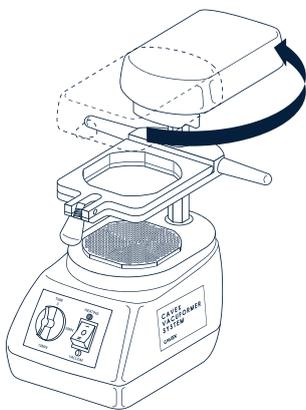

Fig. 1
1. Rotate the heating element to the rear (Fig. 1).